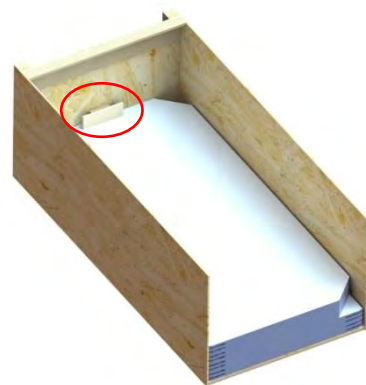

Figure 44
19) Unscrew the blocks that retain the panels. Remove the fiberglass panels from the crate and place them in a safe place (Figure 44).